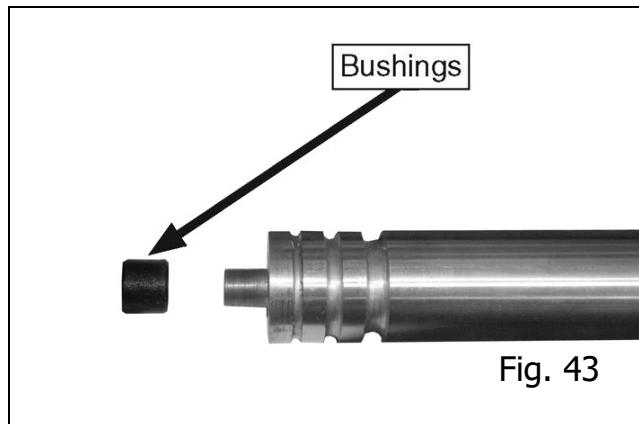

Fig. 43
1. Remove the top roller from the machine, then remove the bushings from the ends of the roller (see Figure 43).